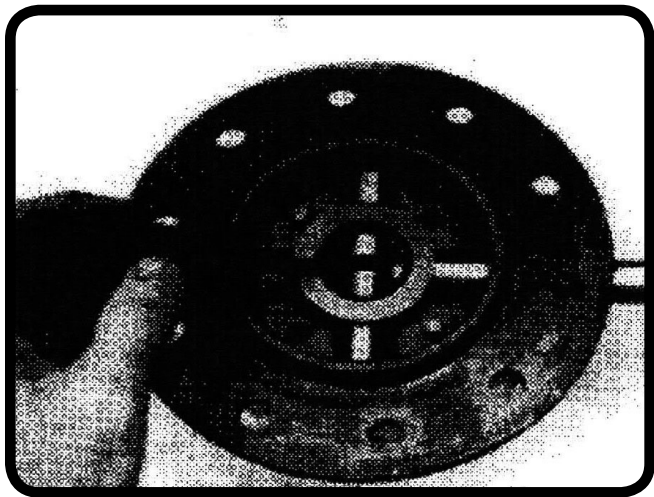
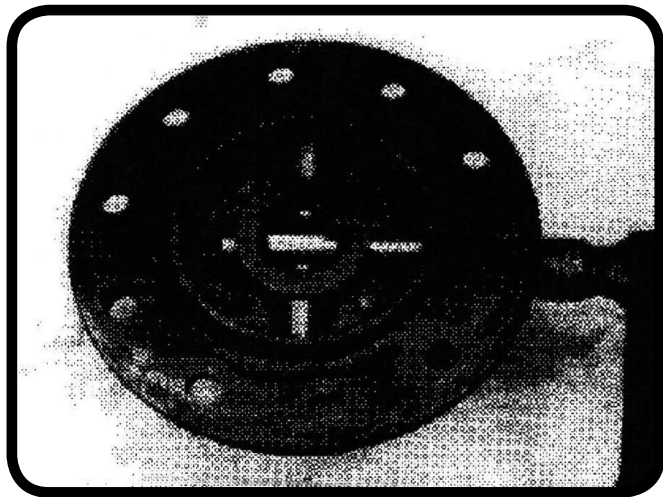

Figure 8
Figure 9
b) Two-pinion cases: Place the two stub shafts in your kit into the pinion shaft block, and place the assembly into the center of the driver. Spread the shafts apart with a screwdriver (**Figure 8**). Drive in the long shaft past the two stub shafts (**Figure 9**). The case will hold the shafts in place.